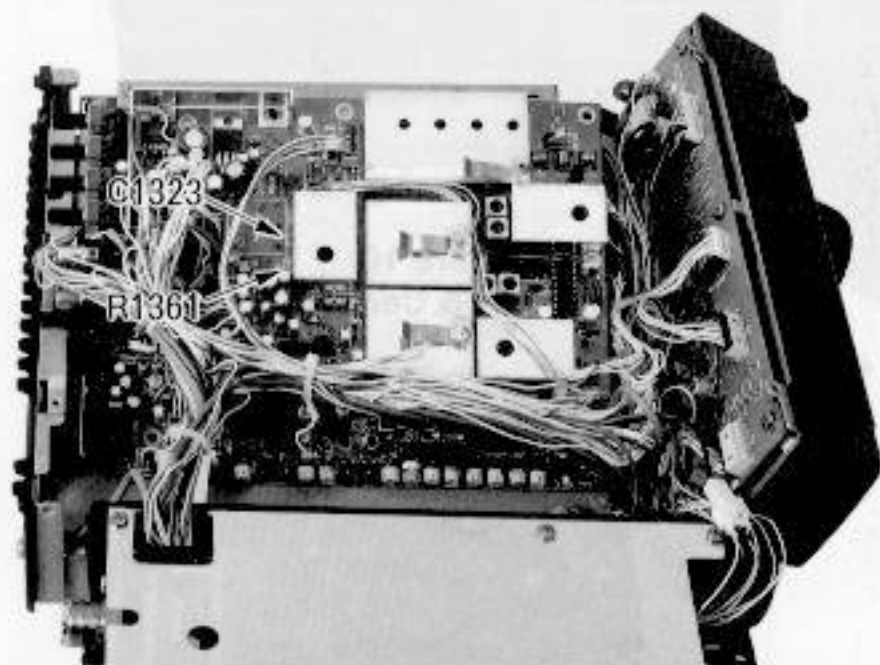

Figure 8: Local Unit Components to Remove
- ☐ Remove the seven screws shown in Figure 6 (note that one is next to the DVS-2 jack on the rear panel), and also remove the upper one of the two screws on either side of the front panel (Figure 7) and loosen the lower one (on each side), allowing the front panel to be folded forward so that the Local Unit can be lifted as shown in Figure 8 (next page).
- ☐ Referring to Figure 8, locate capacitor C1323 and resistor R1361 on the board just behind the oscillator housing. Cut the leads of these parts and remove them.